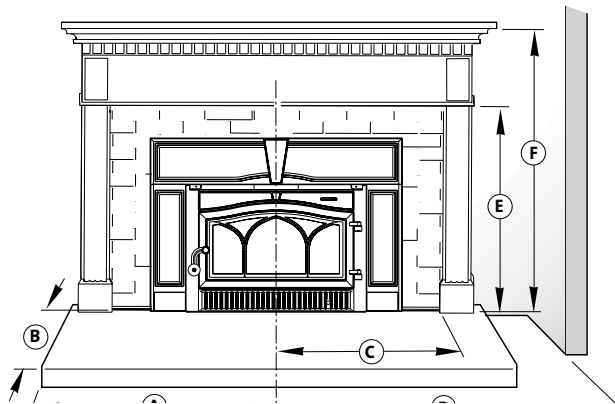

Figure 6. Minimum clearance to combustible materials.
U.S. & Canada: Sides - Protection must extend a minimum 18 1/2 inches (470mm) to both sides of the centerline of the insert. See fig 6, A.